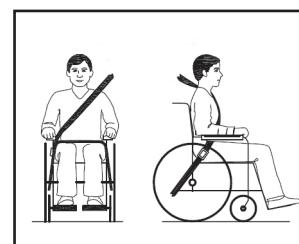

Figure 4
Side equipped with armrest (see fig. 4)
- Pelvic restraints should make full contact across the front of the body near the junction of the thigh and pelvis. The upper belt must fully support the user as illustrated in figure 4.